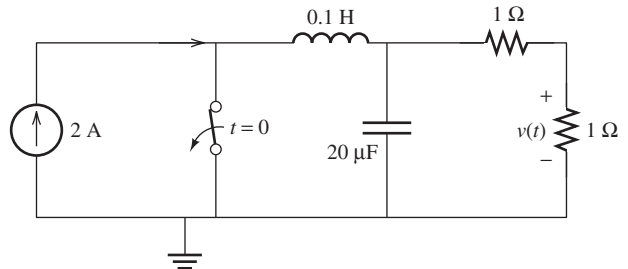

FIGURE P5.59 Circuit for Problem 5.59.
- 5.59 (A) Consider the circuit shown in Figure P5.59. The switch is opened at $t = 0$, find $v(0^+)$ and $v(\infty)$ using PSpice.